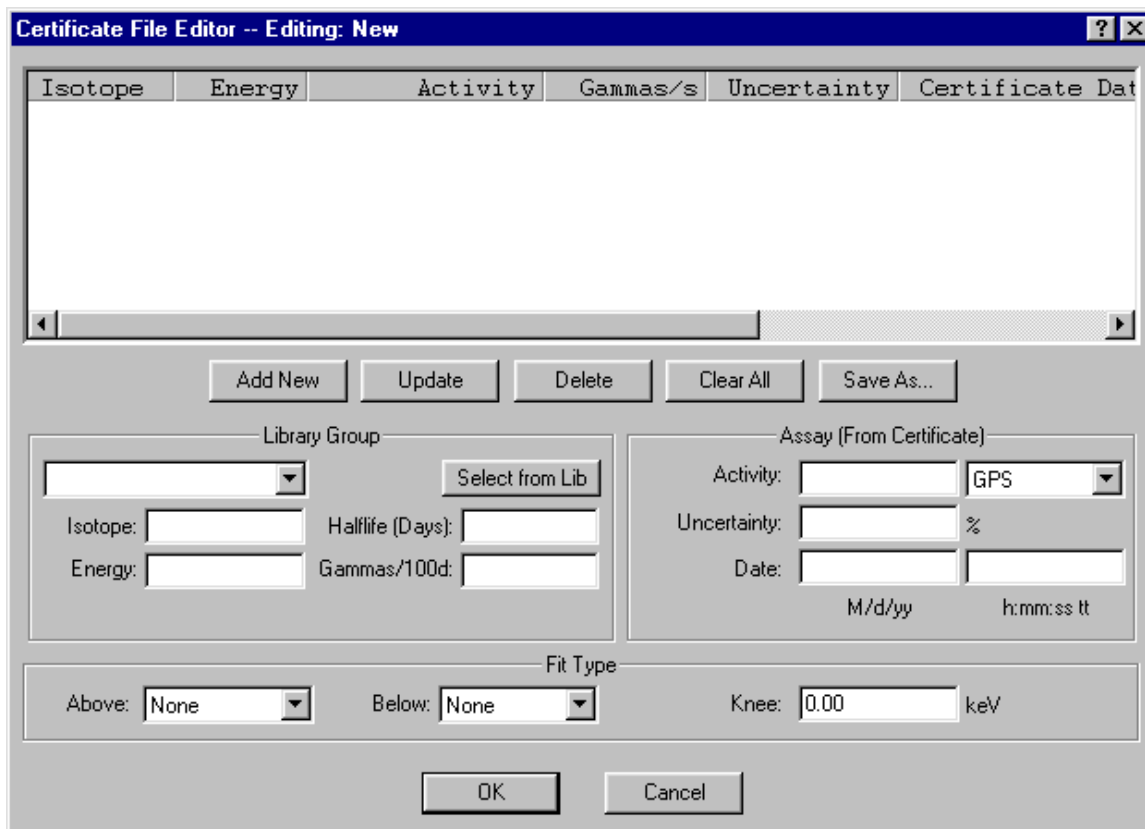

Figure 42. Open the Blank Efficiency Table File.
6. Because the detector-to-source **Distance** is set to zero, a warning message will be displayed. The recommended minimum distance is 30 cm. Click on **OK**. A blank Certificate File Editor will open (Fig. 42).